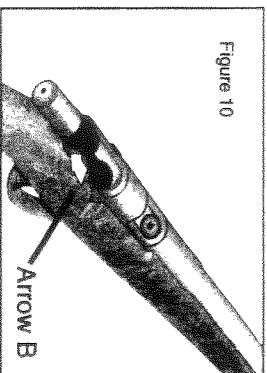

Figure 10
1), pull the bolt assembly rearward, as per arrow "B". The entire bolt assembly will now pull free from the receiver (Figure 10).